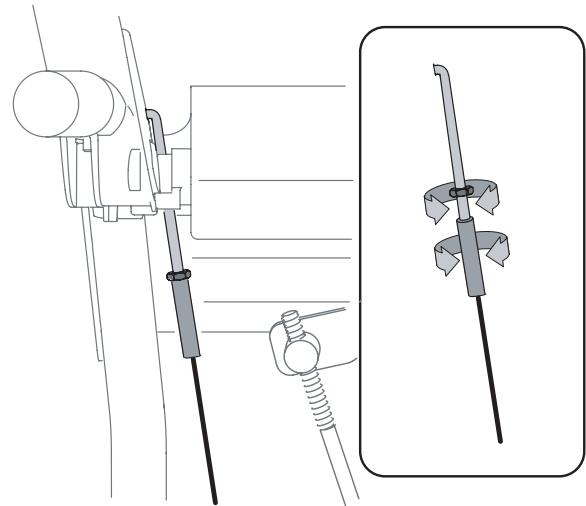

Figure 11
- Retighten the hex jam nut. See Figure 11.